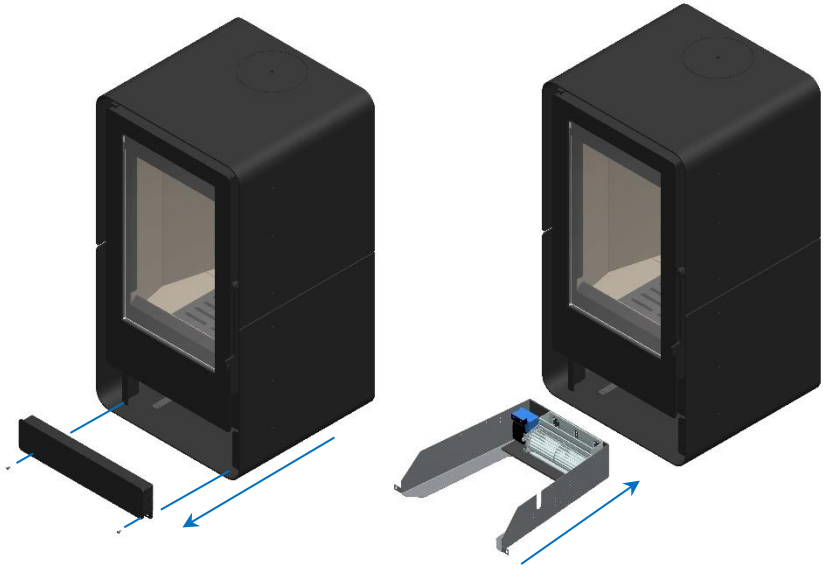

Figure 47 - Installation of the ventilation kit on the Tek Round Eco stove
* Remove front cover and introducing ventilation kit (Figure 47);